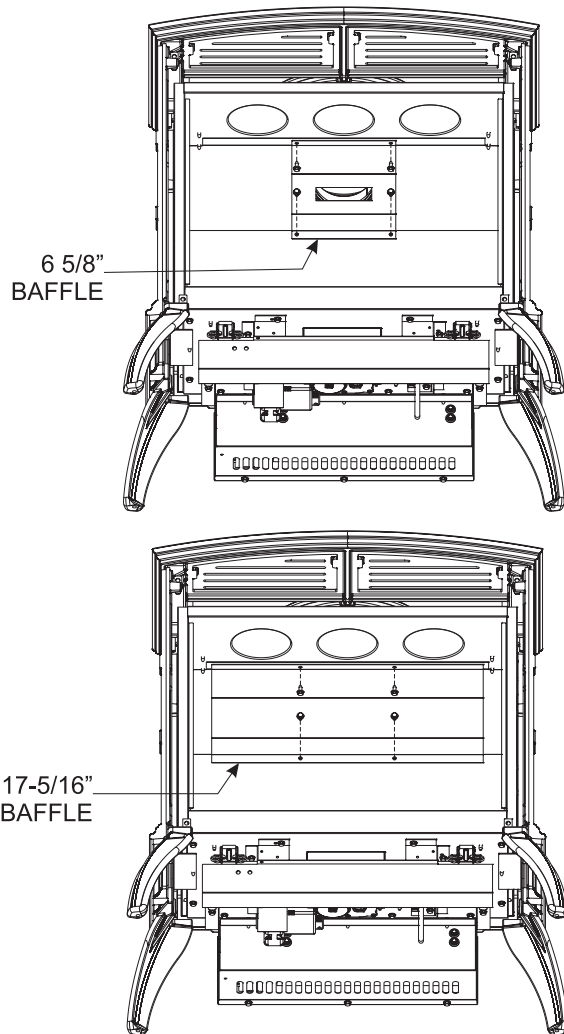

Figure 1
23. Remove flue vent baffle (6-5/8" wide). Install new flue vent baffle (17-5/16" wide). **See Figure 1.**